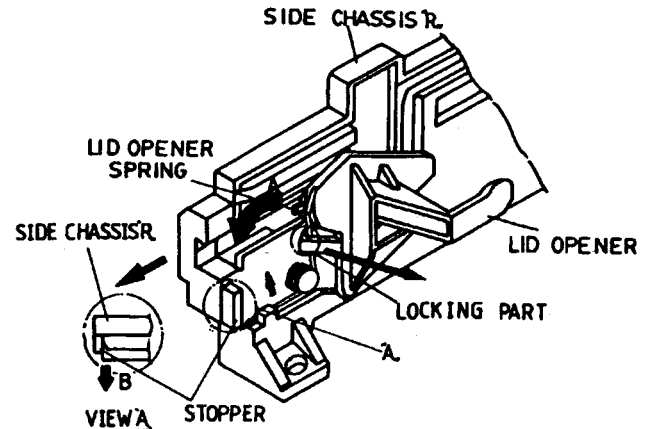

Fig.17
- 4). After removing the lid opener spring, remove the lid opener pulling the locking part in the direction of the arrow. (Fig.17)